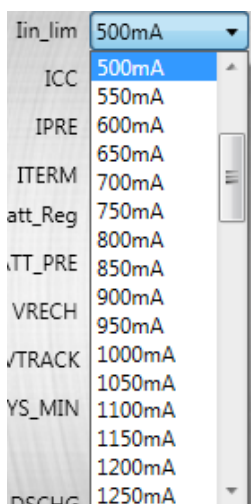

Figure 7: Input Current Limit Setting
- Set the input current limit (see Figure 7). Its range is 100mA to 3250mA, and the default value is 500mA. Set it to the value that meets the input source capacity.